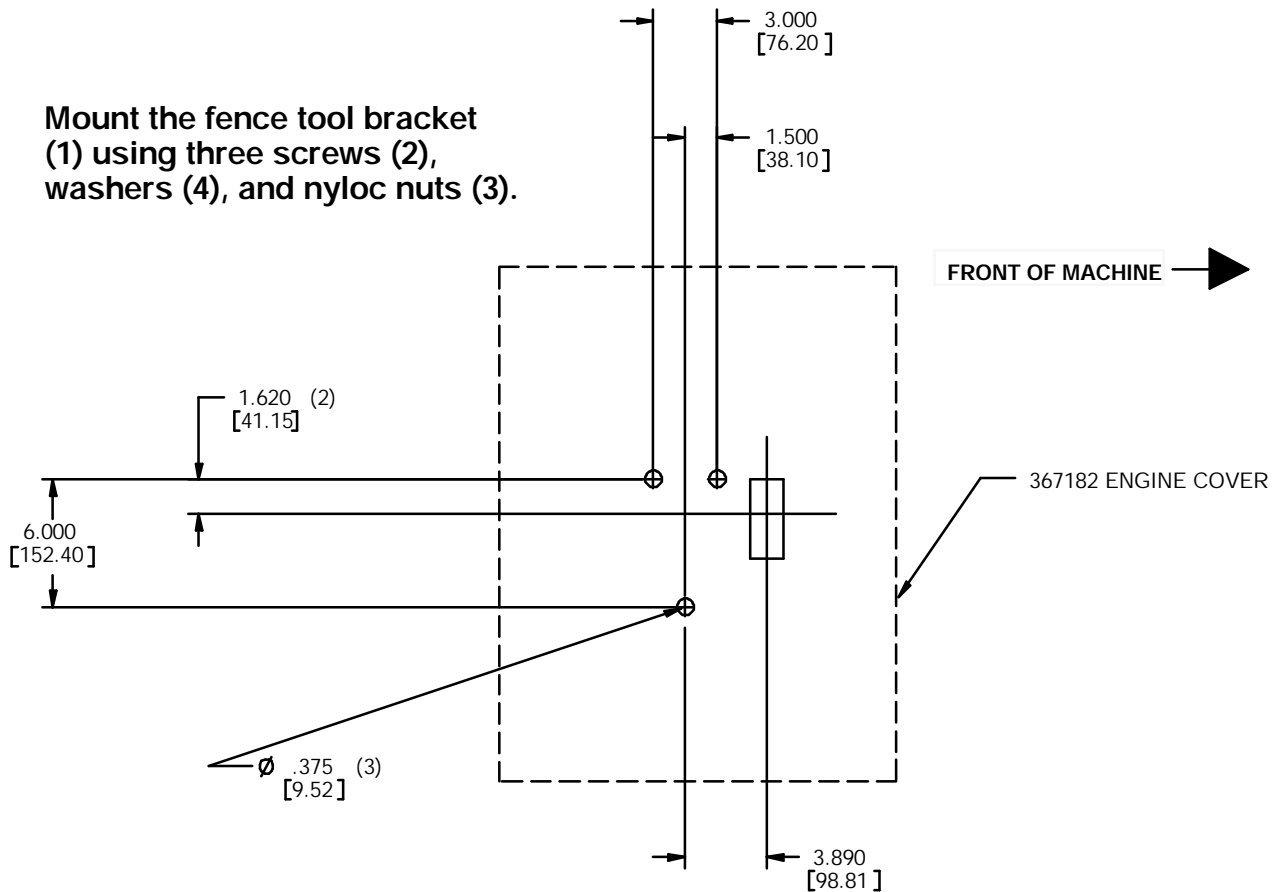

FIG. 2 - Mount Hole Location For Fence Tool Bracket (1)
1. Use the dimensions in Fig. 2 to mark and drill the mount holes for the fence tool bracket (1). Use the three hex screws (2), washers (4), and nuts (3) to mount the tool bracket (1).
5. Position the lower vacuum tube onto the new fence tool bracket (1). Use the rubber tie-down strap (9) to secure the lower vacuum tube to the bracket (1). (Refer to FIG. 2 and 7)